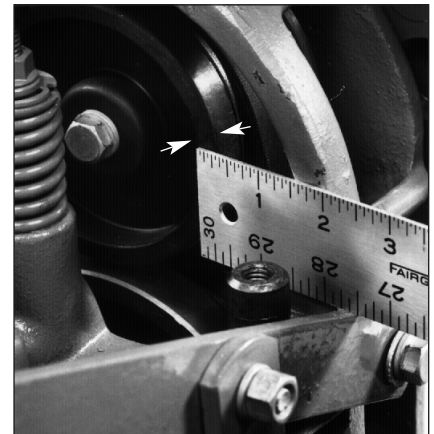

Figure 5-22: Measure the edge of the reverse disc for wear.
1. Measure the width of the outside edge of the disc as shown in Figure 5-22. Replace the disc before the rubber edge wears to a thickness of 1/8" or less. Failure to do so could cause the steel underneath the rubber to damage the transmission pulley.